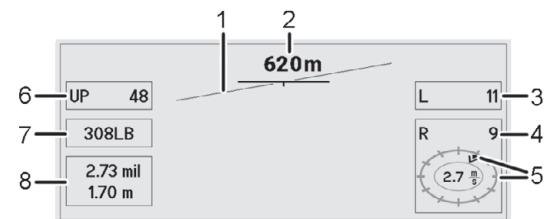

Abb. 3
Any references in the text to figures and item numbers in the images are indicated in parentheses and item numbers in parentheses. Example: (3/4) means fig. 3, item 4.
3. If necessary, correct the wind direction with the buttons "to the right / to the left". To do this, press the buttons until the wind direction arrow (example Fig. 3: wind is coming from the "1 o'clock" direction) shows the correct wind direction.
7. To go back to the first menu (Fig. 3): press the On/Off button (3/1) again briefly.